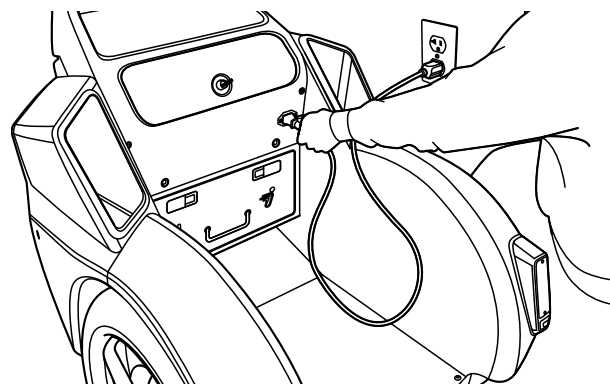

Figure 40: Plug into a properly grounded AC outlet
3. Plug one end of the Power Cord (provided with the vehicle) into a grounded AC outlet (100V–240V; 50Hz–60Hz). The Power Cord should be properly grounded (**Figure 40**).